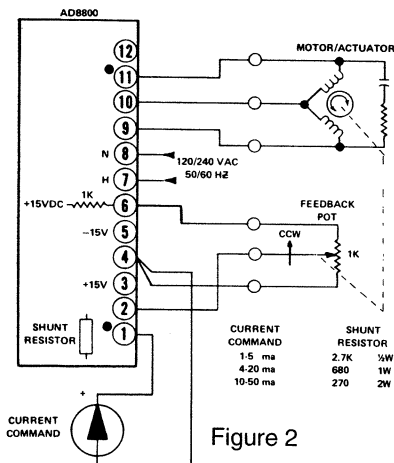

Figure 2
- If the command is a current source (Fig. 2), a current shunt resistor must be added to the circuit board to achieve a voltage (typically between 10 and 15 V dc).